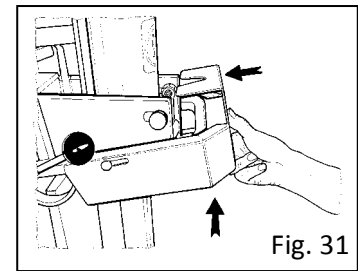

Fig. 31
The machine is equipped with an anti-crush sensor in the return phase which acts also as a hydraulic flow block for machine installation starting and finishing operations in the work place (see fig. 31).
- Stop the hydraulic flow by blocking the sensor (see fig. 31). At this point all cutter movements will be blocked;